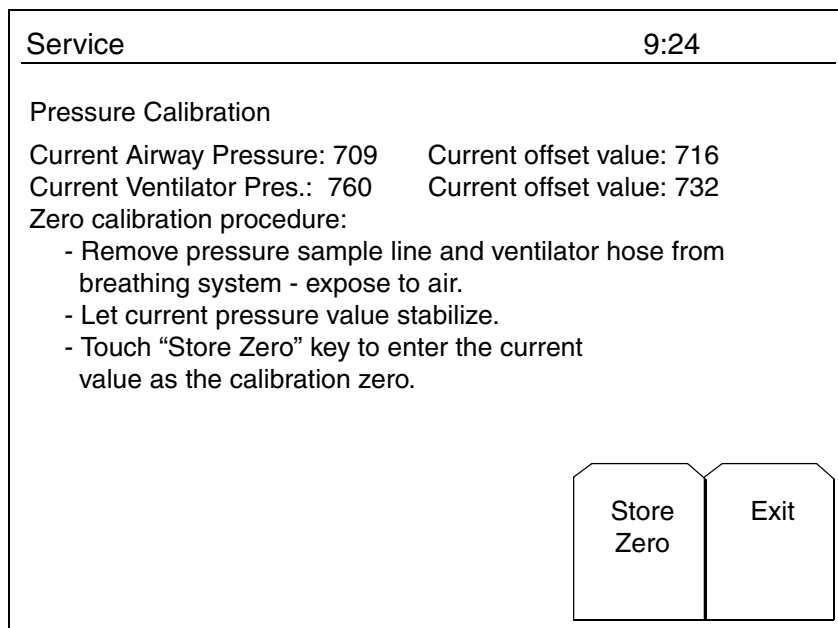

Figure 6-6. Pressure Calibration Screen
- 6.6.3 Scroll to Calibration and select Pressure to bring up the pressure calibration screen. See Figure 6-6.